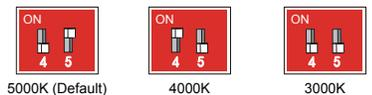

Fig 6 & 7
3. Uncap the CCT & Power selectable modular to select desired CCT & Wattage. Cap the modular after operation is done. (Fig 6 & 7)
5. Uncap the CCT & Power selectable modular to select desired CCT & Wattage. Cap the modular after operation is done. (Fig 6 & 7)